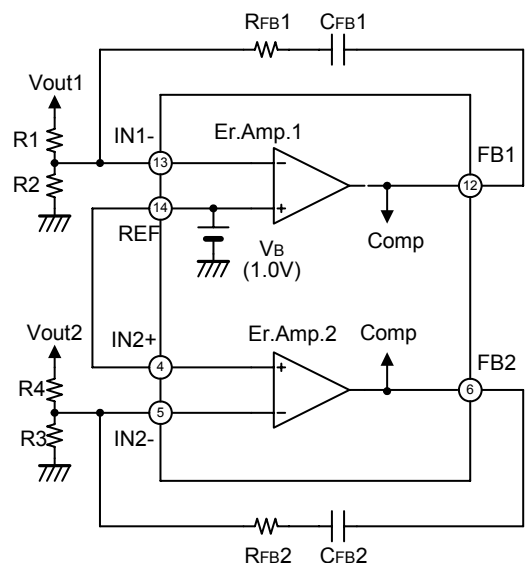

Fig.3
Error Amplifier 1 of FA7703/04 has the inverting input IN1(-) terminal (Pin13). The non-Inverting input is internally connected to the reference voltage (VB) of 1.00V±2% at 25°C. Because error Amplifier 2 of FA7703/04 has the inverting input IN2(-) terminal (Pin5) and non-inverted input IN2(+) terminal (Pin4) outputting externally, various circuit can be designed by kinds of external circuit structures. FB terminals (Pin6, Pin12) are the outputs of Error Amplifiers. Voltage Gain and phase compensation can be set by connecting a capacitor (C) and a resistor (R) between FB terminal and IN(-) terminal.(Fig. 3) For more information about the connection for each output voltage of power supply, refer to Design Advice.